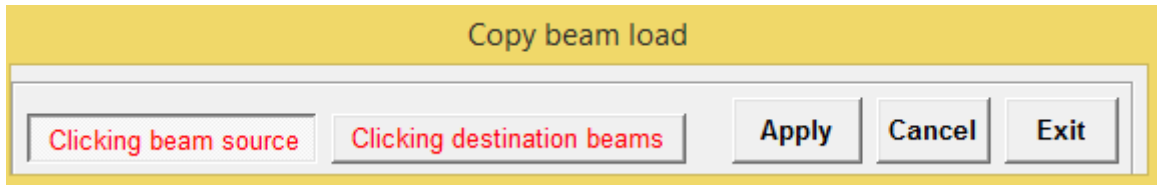

Figure 58
**Step 1:** Click button  Figure 58 will then appear. (Note that button 'Clicking beam source' is in clicked mode which means that you are currently in this mode)
**Step 2:** Click the element which has the element load to be copied. (After clicking the source element, Figure 58 will change to Figure 59. Note that the button 'Clicking destination beams' are now in clicked mode which indicates that you are now in this mode).